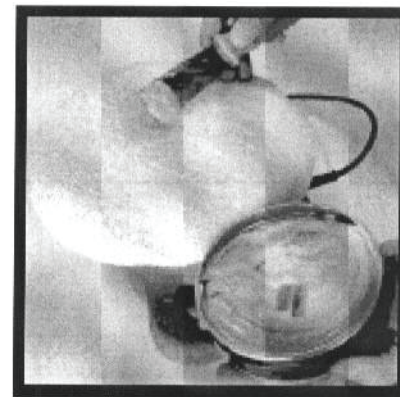

Fig. 2
- 2.2 Paste Wax: spread about a heaping teaspoon of wax evenly over the entire surface of the application bonnet. (Fig. 2). DO NOT apply the polish directly to the surface to be polished. (Most polishes are either in paste or liquid form. Before using polish, read all directions on the appropriate applications and use accordingly.)